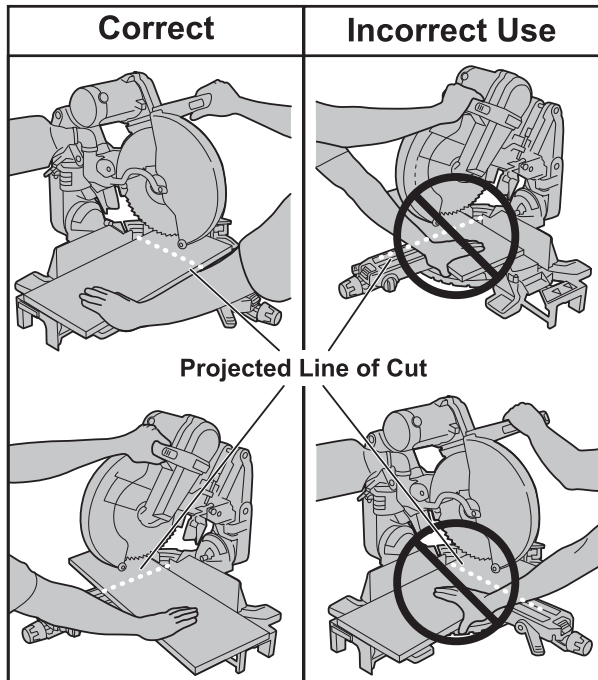

Figure 30. Hand Positions
⚠ WARNING Position your body and hands properly to make cutting easier and safer. Failure to follow all instructions, identified below by bullet (I) symbols, may result in serious personal injury (see Figure 30).
DRY RUN – It is important to know where the blade will intersect with the workpiece during cutting operations. Always perform the simulated cutting sequence with the power tool switched “OFF” to gain an understanding of the projected path of the saw blade. Mentally note where the path of the saw blade will fall and set up your work to keep your hands and arms out of the path of the spinning blade. Adjust your clamps and fences so that the smooth lower guard and cutting action is not interfered with during cutting operation (see Figure 30).